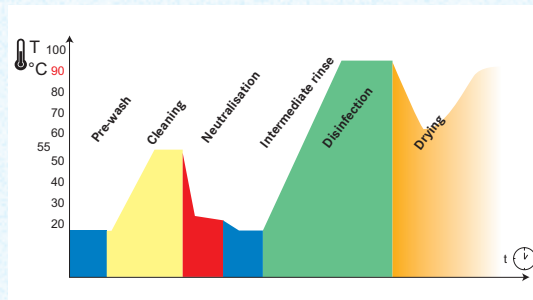

Fig. 1 Diagram of the program sequence of the Vario TD programme
* Should the Miele washer disinfector be unavailable, please observe the parameters of the Vario TD-programme sequence (see fig. 1)
4. Start the Vario TD-programme (for diagram of programme sequence see **fig. 1**) including thermal disinfection.